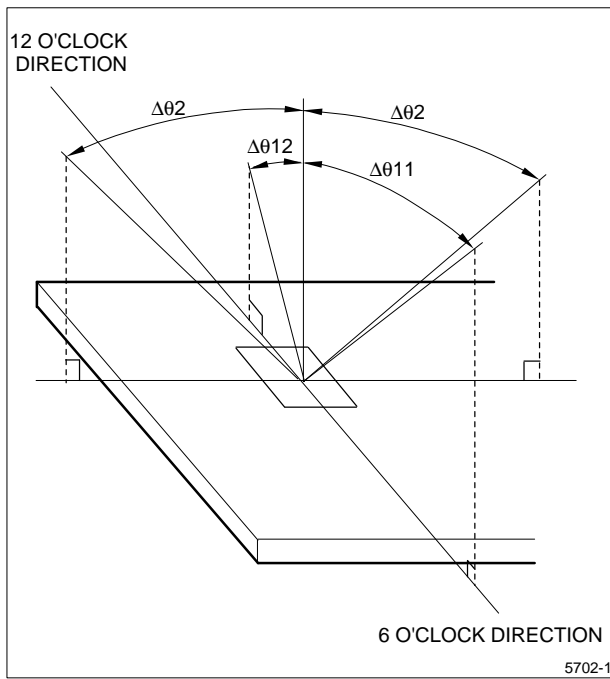

Figure 6. Definition of Viewing Angle
- Viewing angle range is defined in Figure 6.